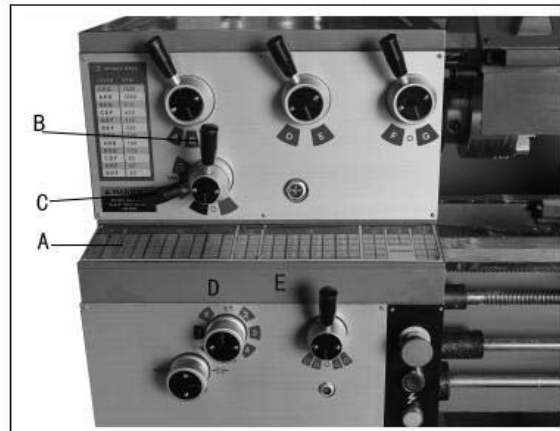

Figure 18
1. Reference the feed and thread found on the gear box faceplate tables (A, Fig. 18 and page 24 of this manual).
2. Move levers (B, C, D, E & F, Fig. 18) to the appropriate positions according to the chart.
The 30T, 32T, and two 40T gears found in the tool box are used with different combinations as indicated on feed and thread tables (A, Fig. 18).